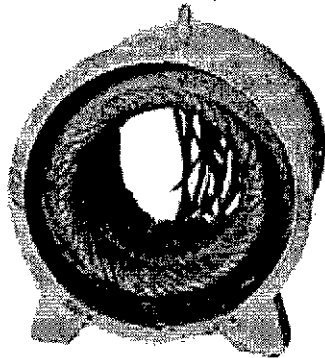

Figure 6-51
1. Clean dust and dirt from the stator frame and winding. (Figure 6-51.) (See section 5.)